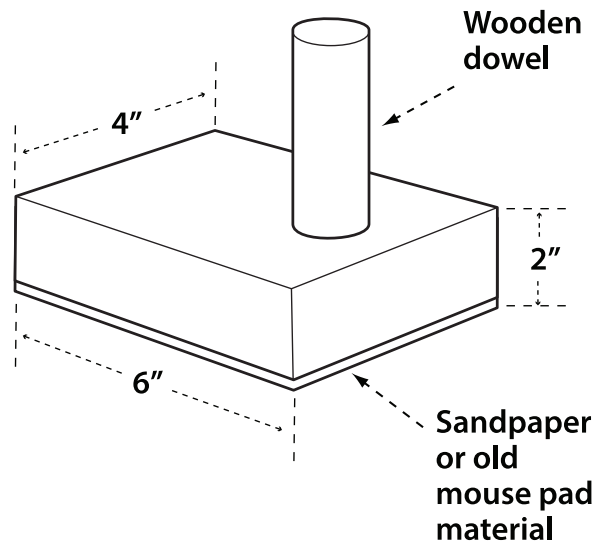

FIGURE 30
3. Glue a piece of rough or soft material such as sandpaper or rubber to the bottom of the block to grip the workpiece (old mouse pads work well). (FIGURE 30).